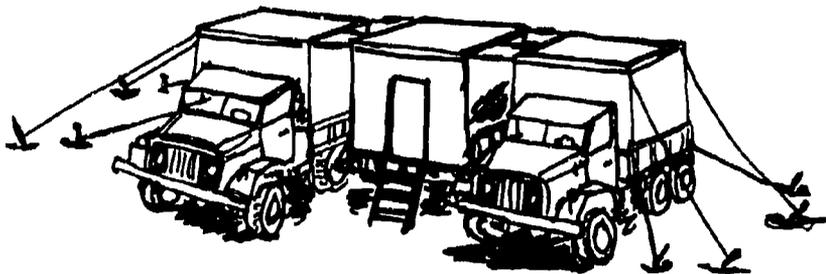

FIGURE 19. MULTIPLE WHEELED VEHICLE ASSEMBLIES.
--"Place two or more vehicles side-by-side." As shown in figure 19, two or more vehicles can be securely attached side-by-side by connecting turnbuckles between the top tiedown rings of each van or vehicle. This adds to the effective wheel base of the vehicles and allows the suspensions of the vehicles to work in unison to cushion the impulse of the blast wave and resist overturn. Parking the cab of every other vehicle in opposite directions will also add to the effective bumper-to-bumper length and further resist overturn from a head-on or rear-on blast wave.